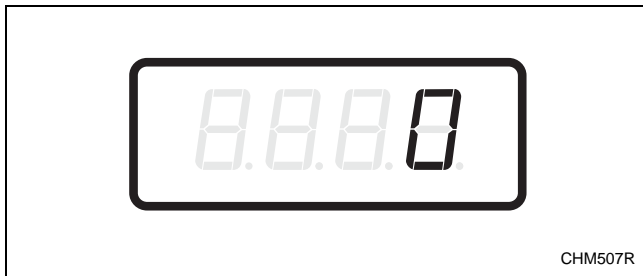

Figure 23
2. When “SA19” appears in the display, press the START (enter) keypad. There are five digits in the Special Vend A Quick/Cold Vend Price. The fifth digit will appear in the display and will flash one (1) second on and one (1) second off. Refer to *Figure 23*.